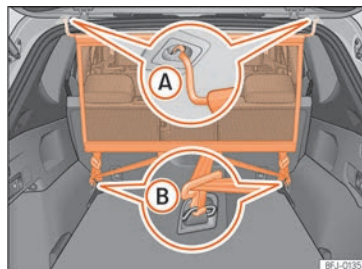

Fig. 137 Net partition fitted.
- Secure the net partition in the left housing of the roof » **Fig. 137 A**. Make sure to move the cross rod down beyond the upper position.
- Hook in the net partition on the rear right-hand side roof housing by pressing on the rod »» Fig. 137 A.
- Secure two hooks of the partition net to the fastening rings of the boot »» Fig. 137 B and tighten the straps firmly.
- Release the net hooks from the fastening rings »» Fig. 137 B.
- Unhook the net partition on the right-hand side roof support »» Fig. 137 A by pressing on the rod.